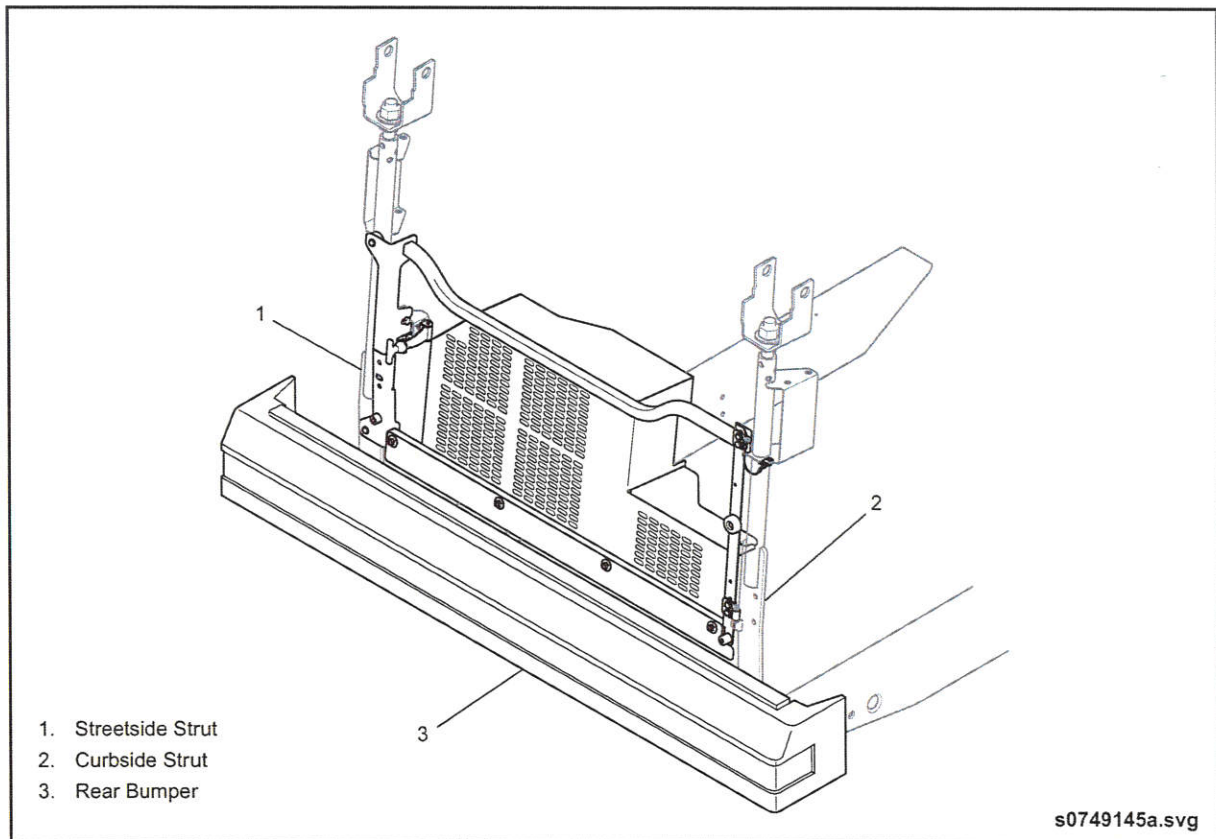

Fig. 4-2: Bumper & Belt Guard Removal
2. Unlatch the belt guard door and swing open. Remove cotter pins from upper and lower hinge pivots and lift off the belt guard. See "Fig. 4-2: Bumper & Belt Guard Removal" on page 5.